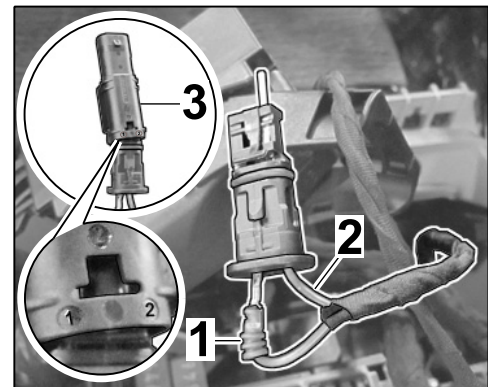

Figure 27
2.5.2 Connect CAN lines with pin contact/single-wire seal (wire harness for engine noise control unit/pulse sender) in the pin connector socket as follows (⇒ *Figure 27*):
- 3 (2) - Connector (2-pin)